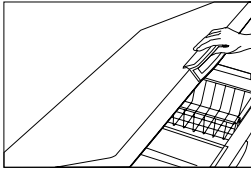

Figure 1
- 3.** Open the door of your product and wait the ices for melting when the door is on open position. (Figure 1)